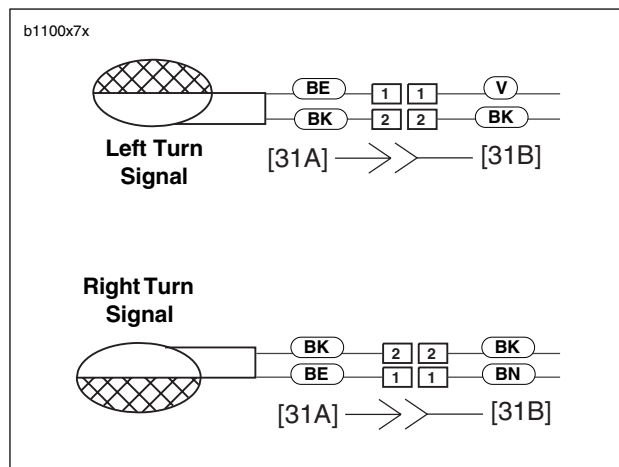

Figure 7-52. Front Turn Signal Connections
2. See Figure 7-52. Disconnect bullet connectors on turn signal wires.